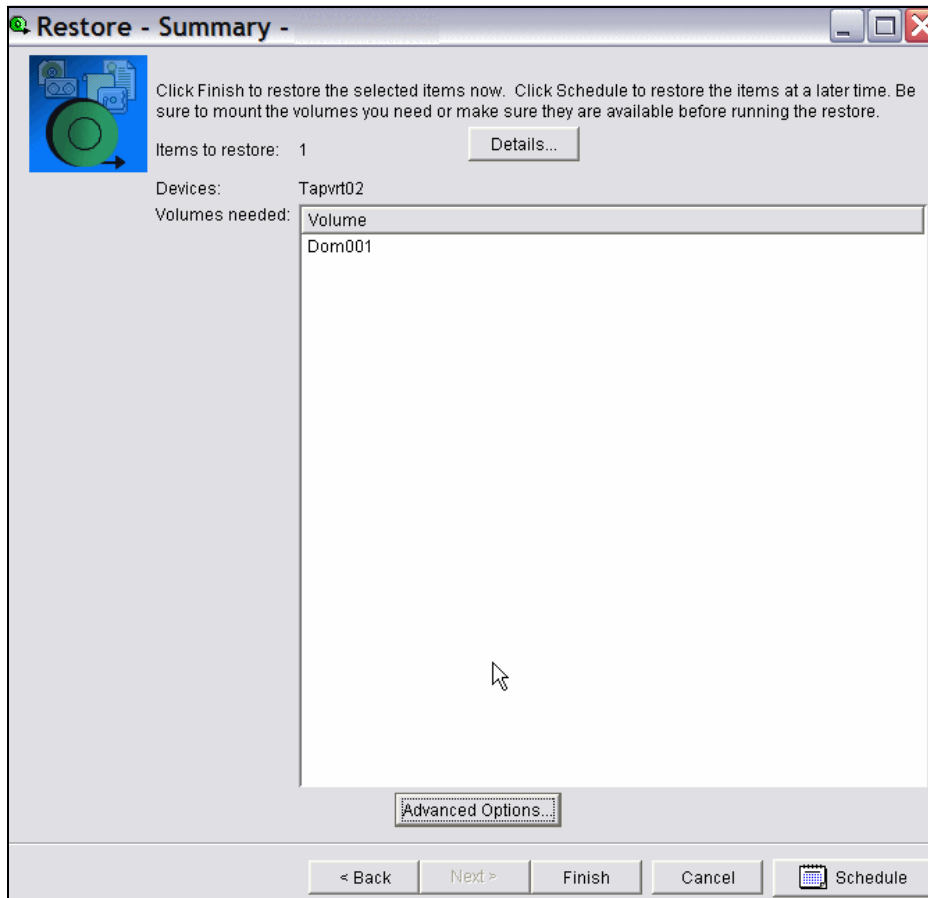

Figure 5-94 Restore Domino data with BRMS, Restore summary - Finish
14. In the Restore Summary panel shown in Figure 5-94 on page 274, click **Finish**.